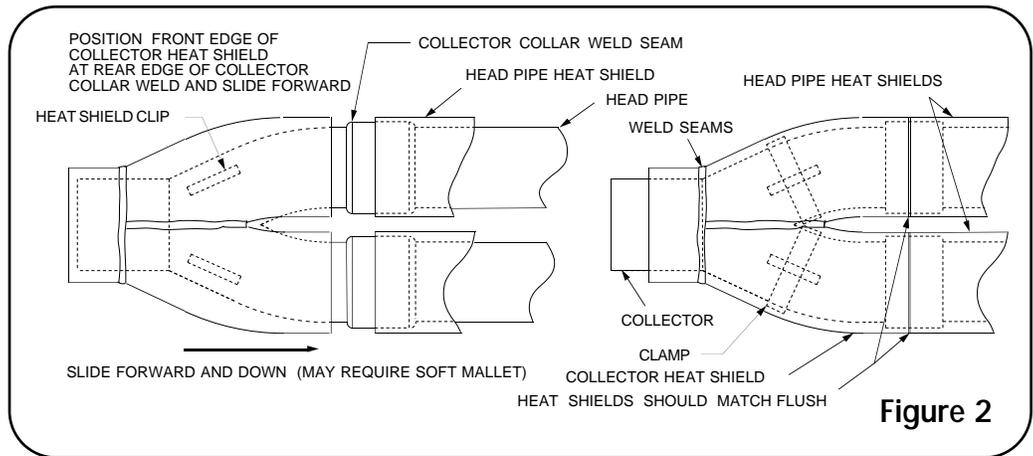

Figure 2
4. To facilitate installation of collector heat shield, use a forward sliding motion from the rear of collector. (Refer to figure 2) **Do not force collector heat shield directly onto header from the side. Damage to collector heat shield will result.**
10. Align all three heat shields so ends meet flush. (Refer to figure 2). Tighten heat shield clamps.